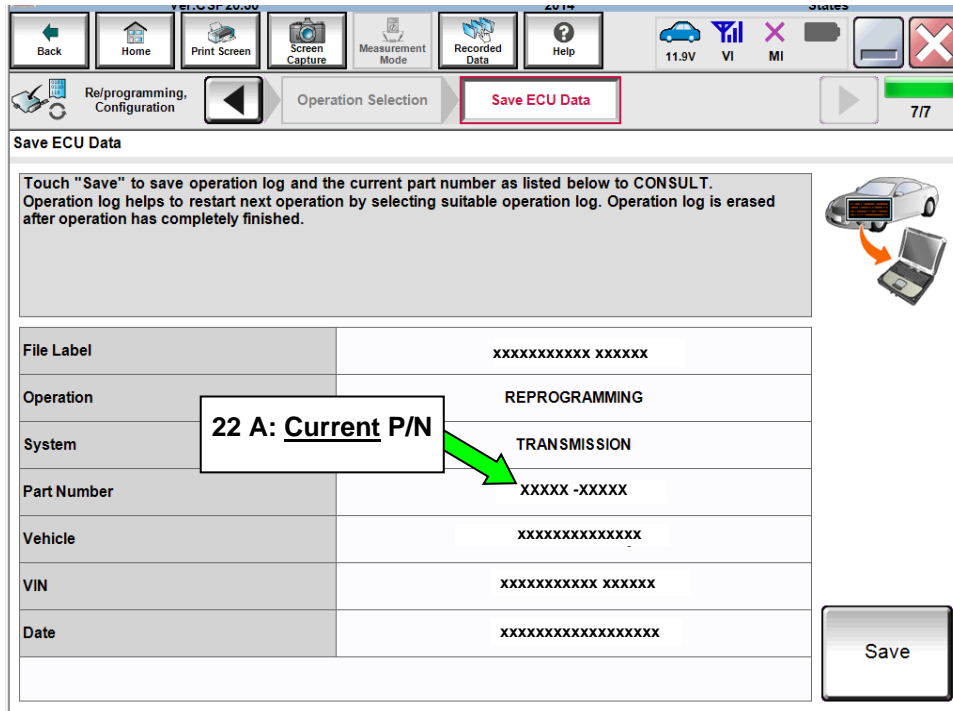

Figure 10
21. Follow the on-screen instructions and navigate C-III plus to the screen shown in Figure 10 below.
22. When you get to the screen shown in Figure 10, confirm TCM reprogram applies as follows.